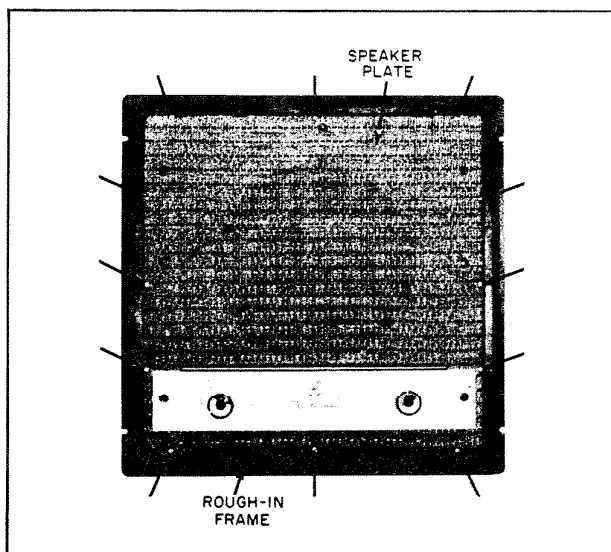

Fig. 13. Speaker plate and rough-in frame assembly of outside-installed Model 2020 remote speaker station.
3. Mount the speaker plate to the rough-in frame with the twelve screws provided as shown by arrows in Fig. 13. *All screws must be used to prevent speaker rattle.*